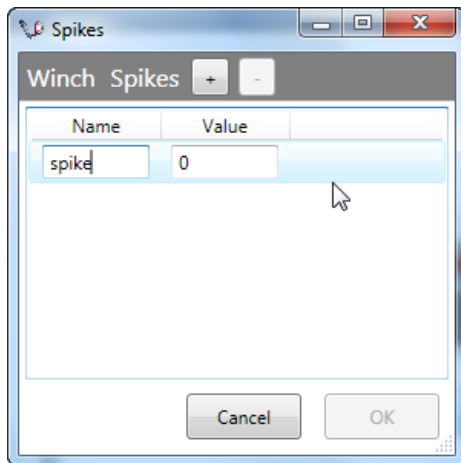

Figure 214
6. A new Spike will be added with the generic **Name** of “spike” and a **Value** of “0” (Figure 214).